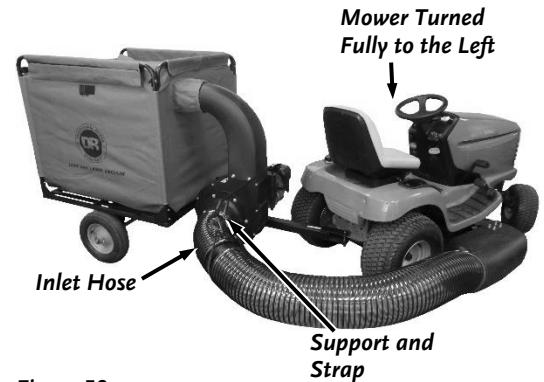

Figure 59
3. Turn the Tractor as far as it will go to the left ensuring that the Tractor is not touching any portion of the Leaf Vacuum (**Figure 59**).
Note: The Tractor **must** be turned fully to the left (**Figure 59**).